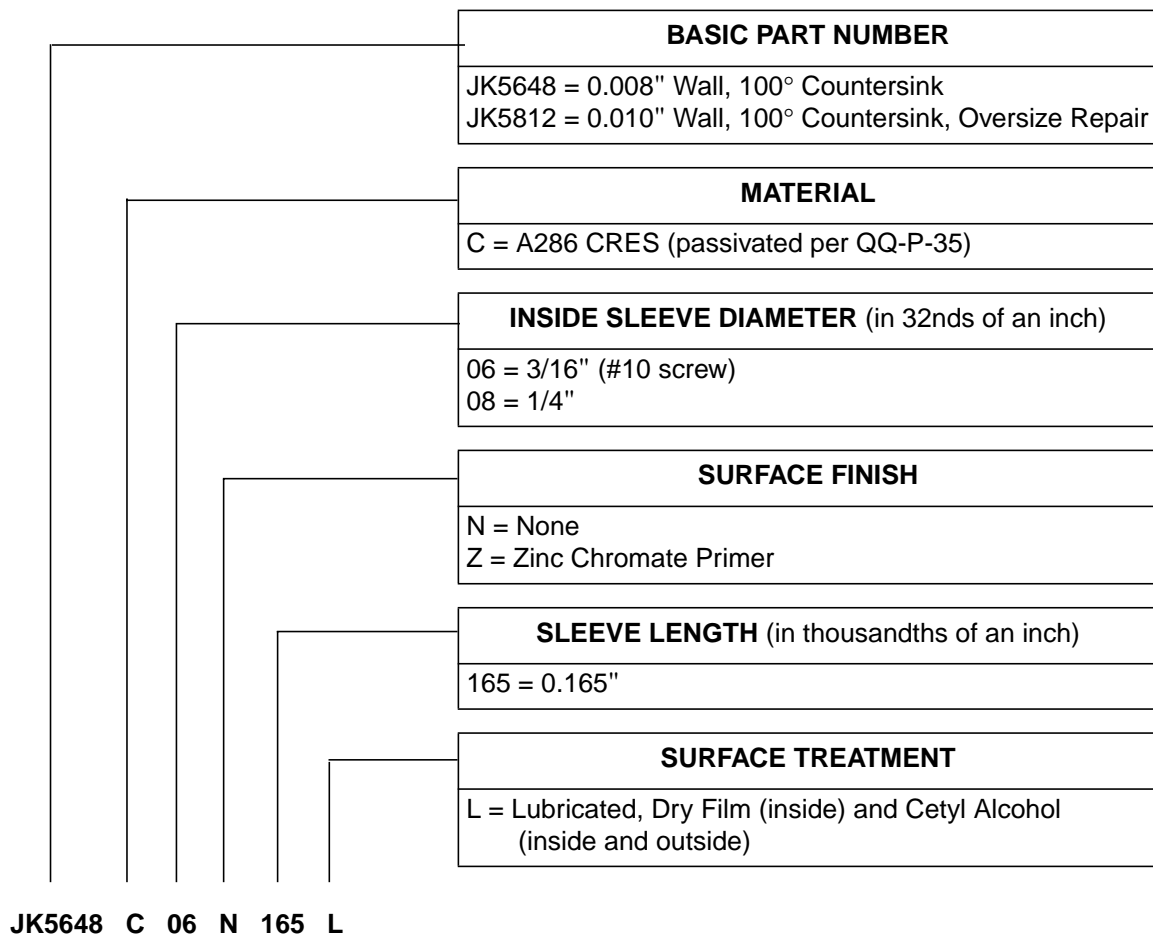
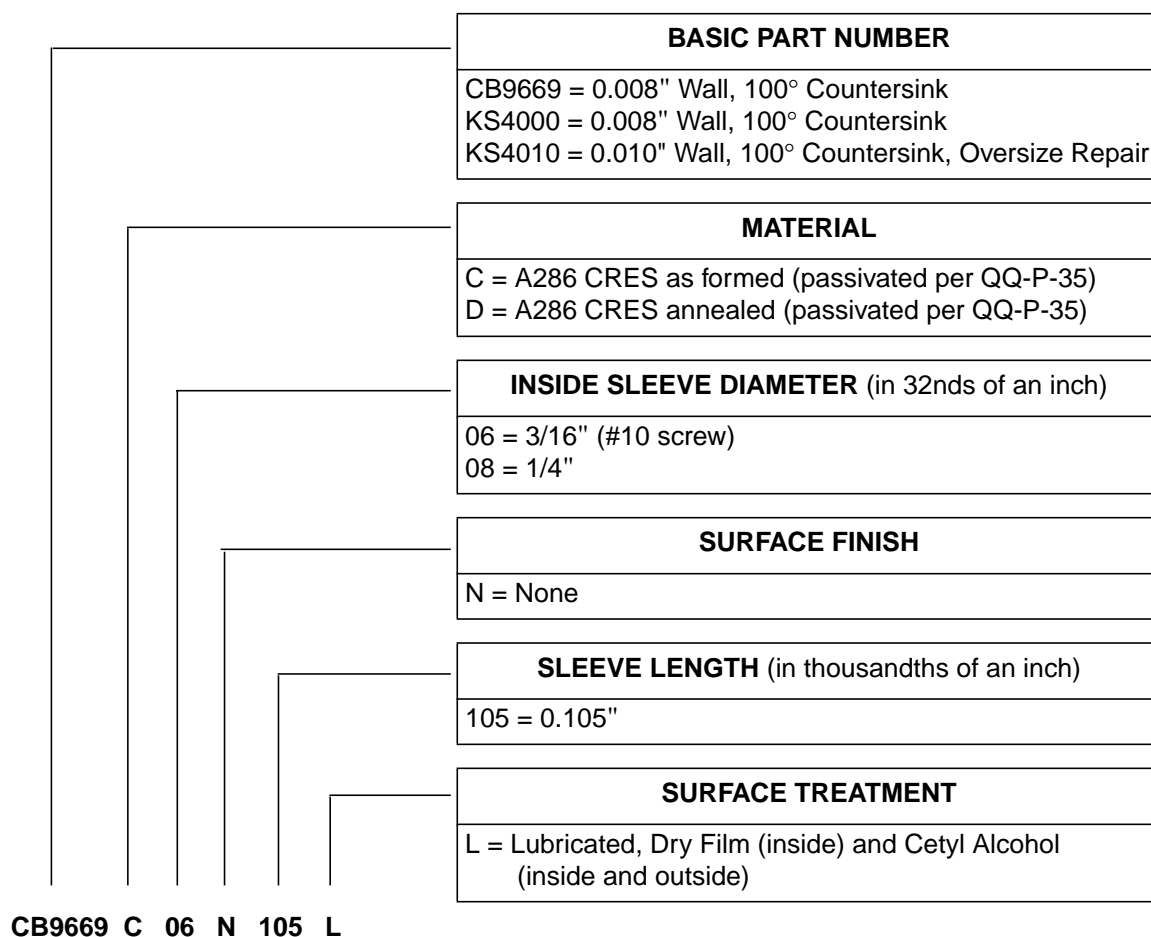
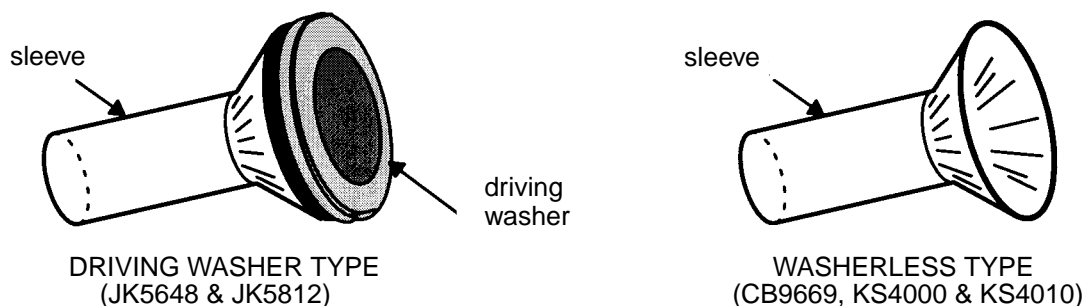

Figure 1 - Driving Washer Type Sleeve Part Number Breakdown
Figure 2 - Washerless Sleeve Part Number Breakdown
Figure 3 - Hole Sizing Sleeves
- 4.1.1 Hole sizing sleeves as specified on the engineering drawing. Refer to Figure 1 and Figure 2 for a breakdown of the sleeve part numbers. Refer to Figure 3 for a general description of the sleeves. Refer to BM9010.05 (EO7336) for the status of replacement sleeves.
- 5.1.2 There are two types of sleeves (see Figure 3), with washers (JK5648 and JK5812) and without washers (CB9669, KS4000 and KS4010).